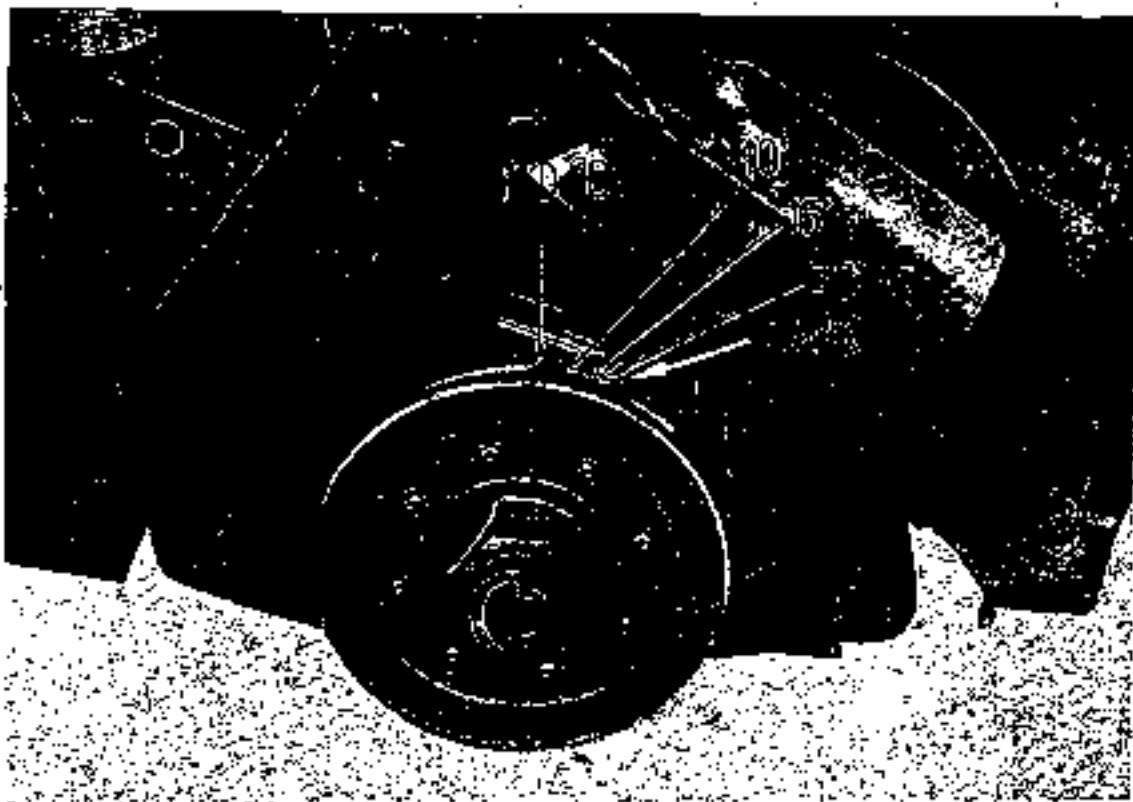

Fig. 1 Checking the Ignition Timing
The ignition timing is adjusted to 10 degrees before top dead center with the engine stopped as shown in Fig. 1. With this adjustment, the automatic timing advancer of the distributor advances the ignition timing even further at the time the engine starts to rotate, and the timing is maintained constantly at values suitable for the rotational speed.
2. Turn the crankshaft gradually until the top dead center mark (Fig. 1) on the pulley perfectly coincides with the mark for 10 deg. before top dead center on the timing gear cover as the crankshaft approaches its position somewhat before that corresponding to the end of the compression stroke of the No. 1 piston. Stop the crankshaft in this position. The compression stroke of the No. 1 piston can be determined if the spark plug of the No. 1 cylinder is removed, the hole plugged with a finger, and the crankshaft turned. With the crankshaft in the previously-mentioned position, the No. 1 piston is in its position of 10 deg. before top dead center of compression.